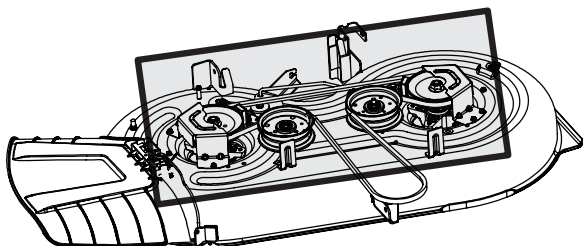

Figure 19
- Clean the top of the tractor deck, under the spindle covers, and belt area (Figure 19).